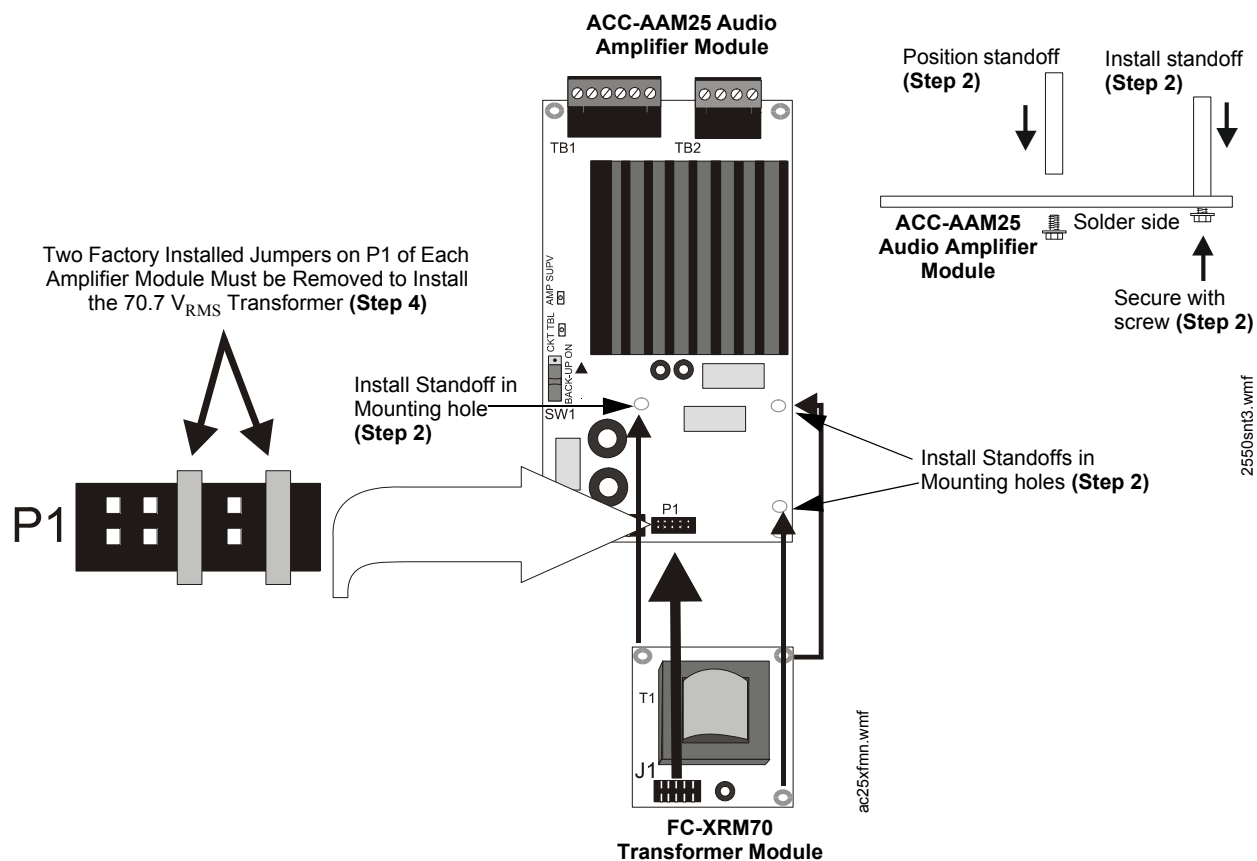

Figure 3.18 70.7 V_{RMS} Transformer Module Installation
- (1) Position switch S1 in the DOWN position for primary operation which adds the new amplifier's 25 watts to total system power (50 watts total).
- (2) Position switch S1 in the UP 'Backup On' position to configure the amplifier as a backup in the event the primary amplifier fails. Also for NFV-25/50ZS & NFV-25/50ZST: position switch SW1 on the ACC-ZSM board to the AAM1 position for single amplifier circuit operation.
7. Check to make certain the factory installed jumpers are in place on P1 of the Audio Amplifier Module(s). *Do not remove unless installing the FC-XRM70 Transformer Module. See Figure 3.18 on page 59 for more information.*
2. Install the three standoffs supplied with the FC-XRM70 Module by inserting each supplied screw into the three holes on the solder side of the ACC-AAM25 Audio Amplifier Module(s). Secure each standoff in place with the screws. Refer to Figure 3.18 for the location of the mounting holes.
4. Remove the two factory installed jumpers from connector P1 of the Audio Amplifier Module(s). Refer to the illustration in Figure 3.18.